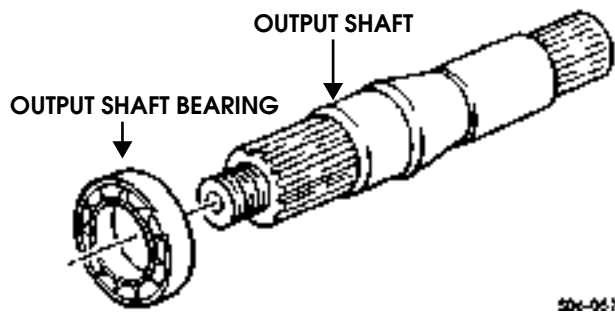

Figure 9-100: Bearing Installation
65. Using press, install output shaft bearings on output shafts (Figure 9-100).